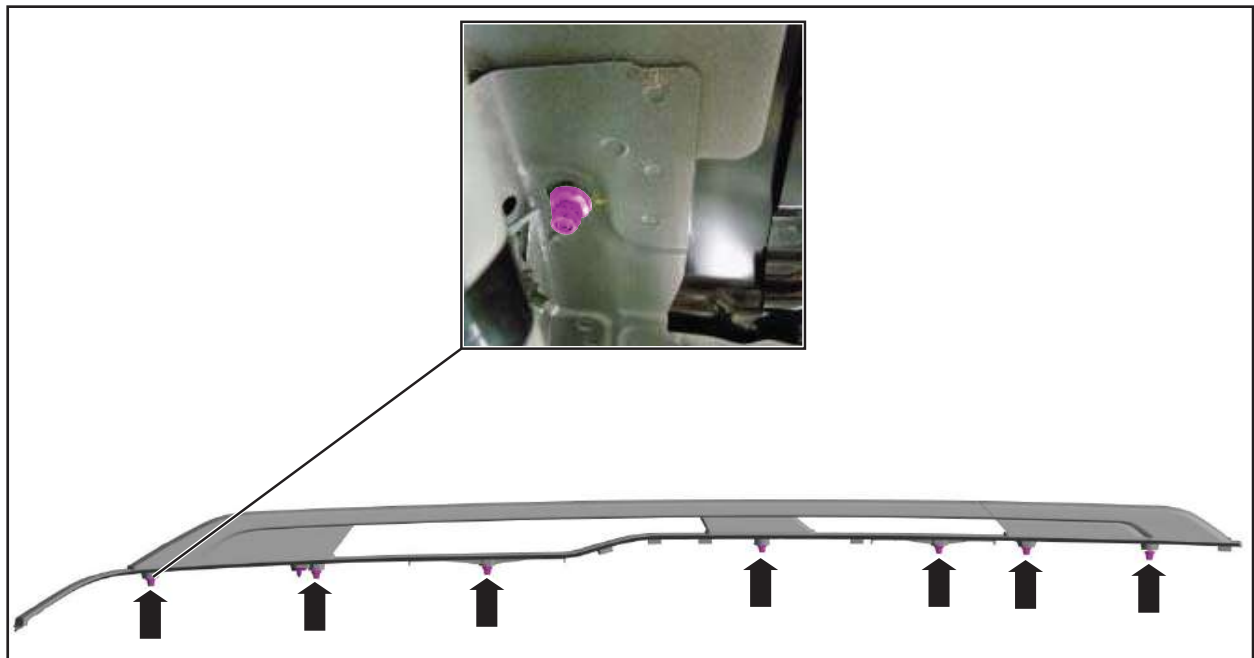

FIGURE 33
33. Remove the LH side rail nuts from inside the vehicle. See Figure 33.